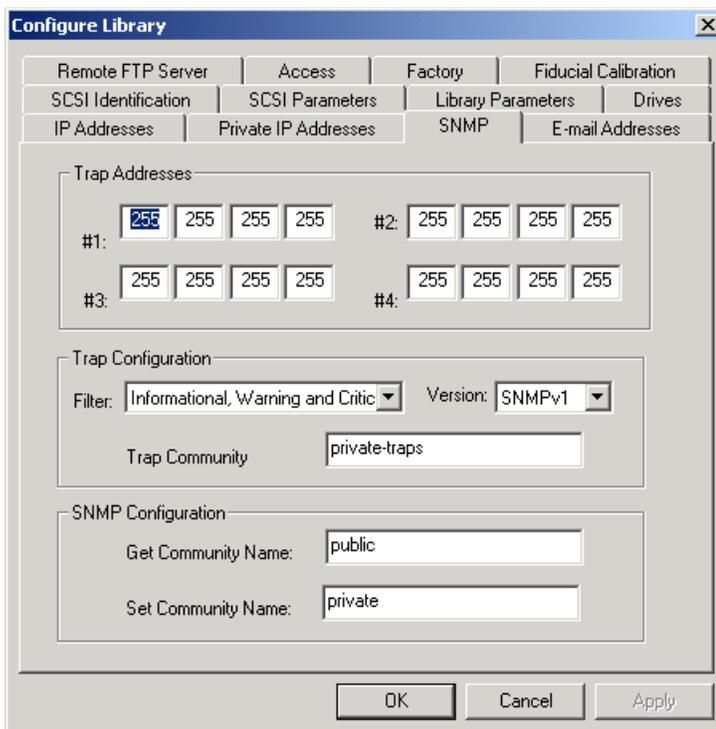

Figure 7-4: Configure Library Dialog Box—SNMP Tab
1. Click the **SNMP** tab to bring it to the front (Figure 7-4).